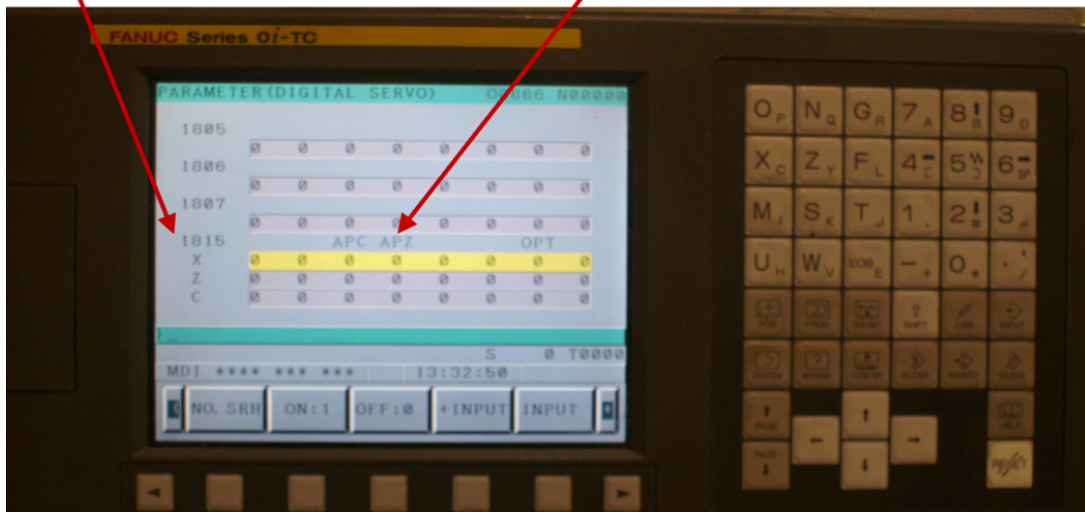

Figure 4.
3. Press the SYSTEM hard key and navigate to parameter 1815 (See Figure 3). Start with the X axis. Use the arrow key to move to the right until you are at the APZ column (See Figure 4). Change this from a zero to a 1. You will be thrown to the alarm page and prompted to turn the power off and back on (See Figure 5). Comply. When the machine powers back up, you should be able to move the X axis. Jog it to the center of travel. Navigate back to parameter 1815 and turn the X APZ bit to zero again. This will throw you to the alarm page again. No worries, power down and back up.